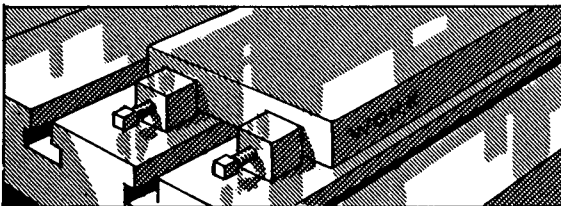

FIG. 177
7. Place the two stops, type B, in the holes in the table. Then, after the work has been located in relation to the stops, the screws can be adjusted to compensate for any unevenness of the edge (Fig. 177).